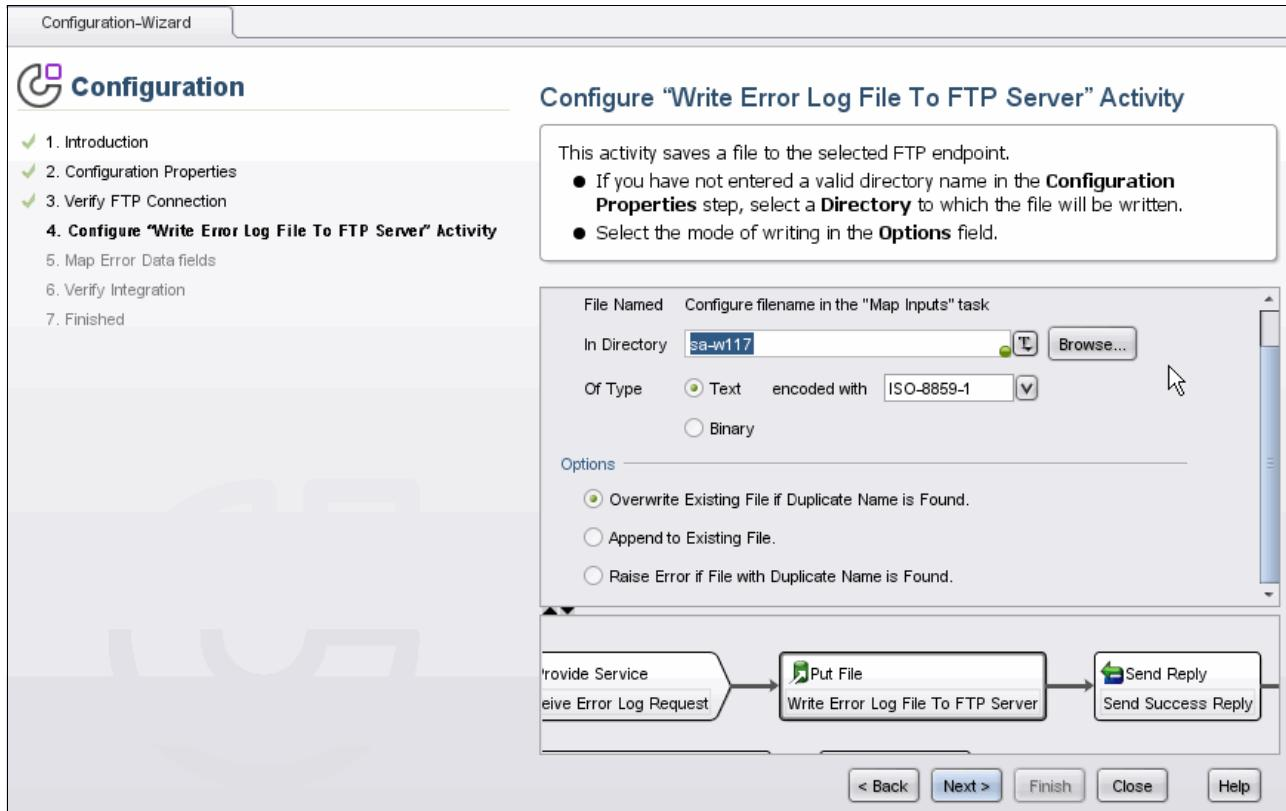

Figure 7-28 Configuration Wizard Configure "Write Error Log File To FTP Server" activity step
5. Select the directory for FTP to write the file to, and select the type of file, as shown in Figure 7-28. Click **Next**.